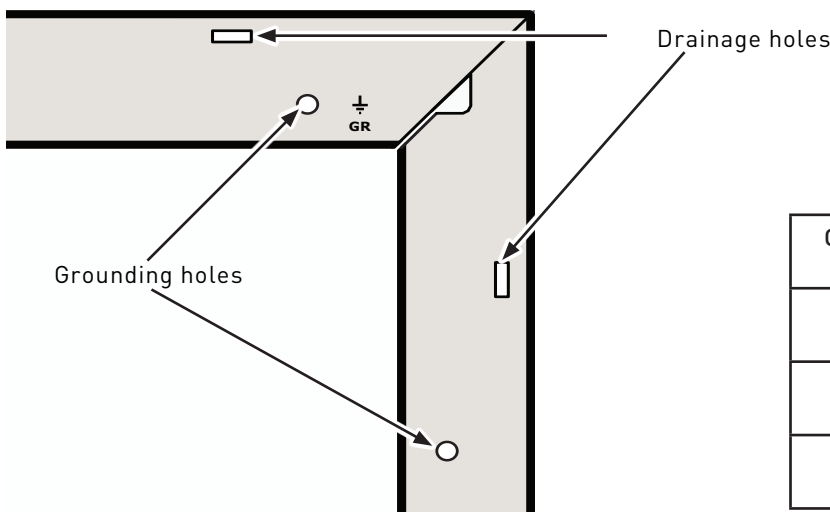

Figure 22. Drainage and grounding holes
- In each corner of the EVERVOLT® module frame small drainage holes are spaced 2.2 in (55 mm) from the corner on long and short sides (Figure 22). These allow humidity caused by rain, condensation, snow melt, cleaning or any other process to exit the frame easily and minimize damage.
- EVERVOLT® modules have a small round grounding hole positioned near each corner of the module on both the long side and the short side, as shown in Figure 22 and can be further identified by the grounding symbol stamped in the frame next to it.